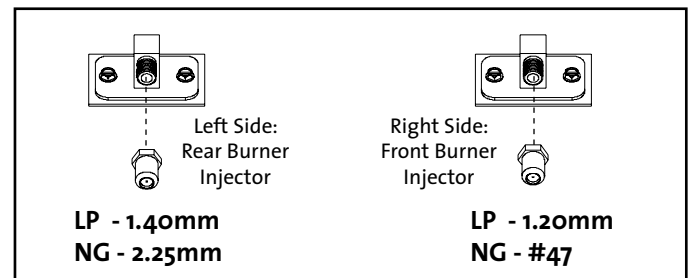
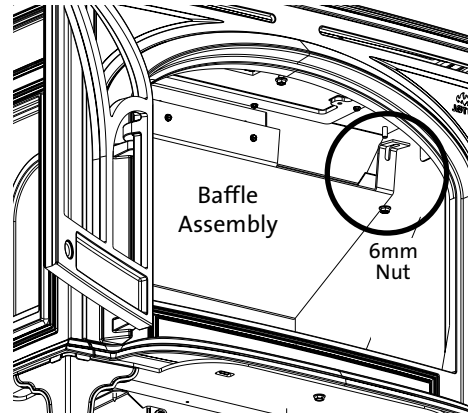

Figure 6.6. *Change the burner injector orifices.*
Figure 6.7.
6.6. Change the Burner Injectors. See fig. 6.6. Using a 1/2" open end wrench or deep-well socket remove both burner injectors from the brass elbow housings and replace with the appropriate injectors supplied in the kit. **Injectors are labelled: "L" = Left / "R" = Right.****6.7. Baffle Conversion - Propane only:** Remove two, 6 mm nuts to detach the baffle assembly from the firebox. See figs. 6.7 - 6.8.